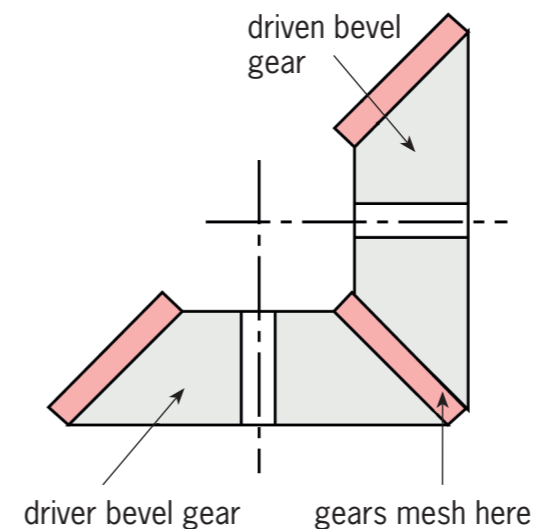

Figure 2: How to draw two bevel gears of equal size
Look at Figure 2. It shows how you would draw two bevel gears of equal size.
1. Make a sketch of the system shown in Figure 2.
The sketch should resemble Figure 2 and include the labels. It should be a hand-drawn sketch (drawn without using a ruler), so it does not need to be neat and accurate.